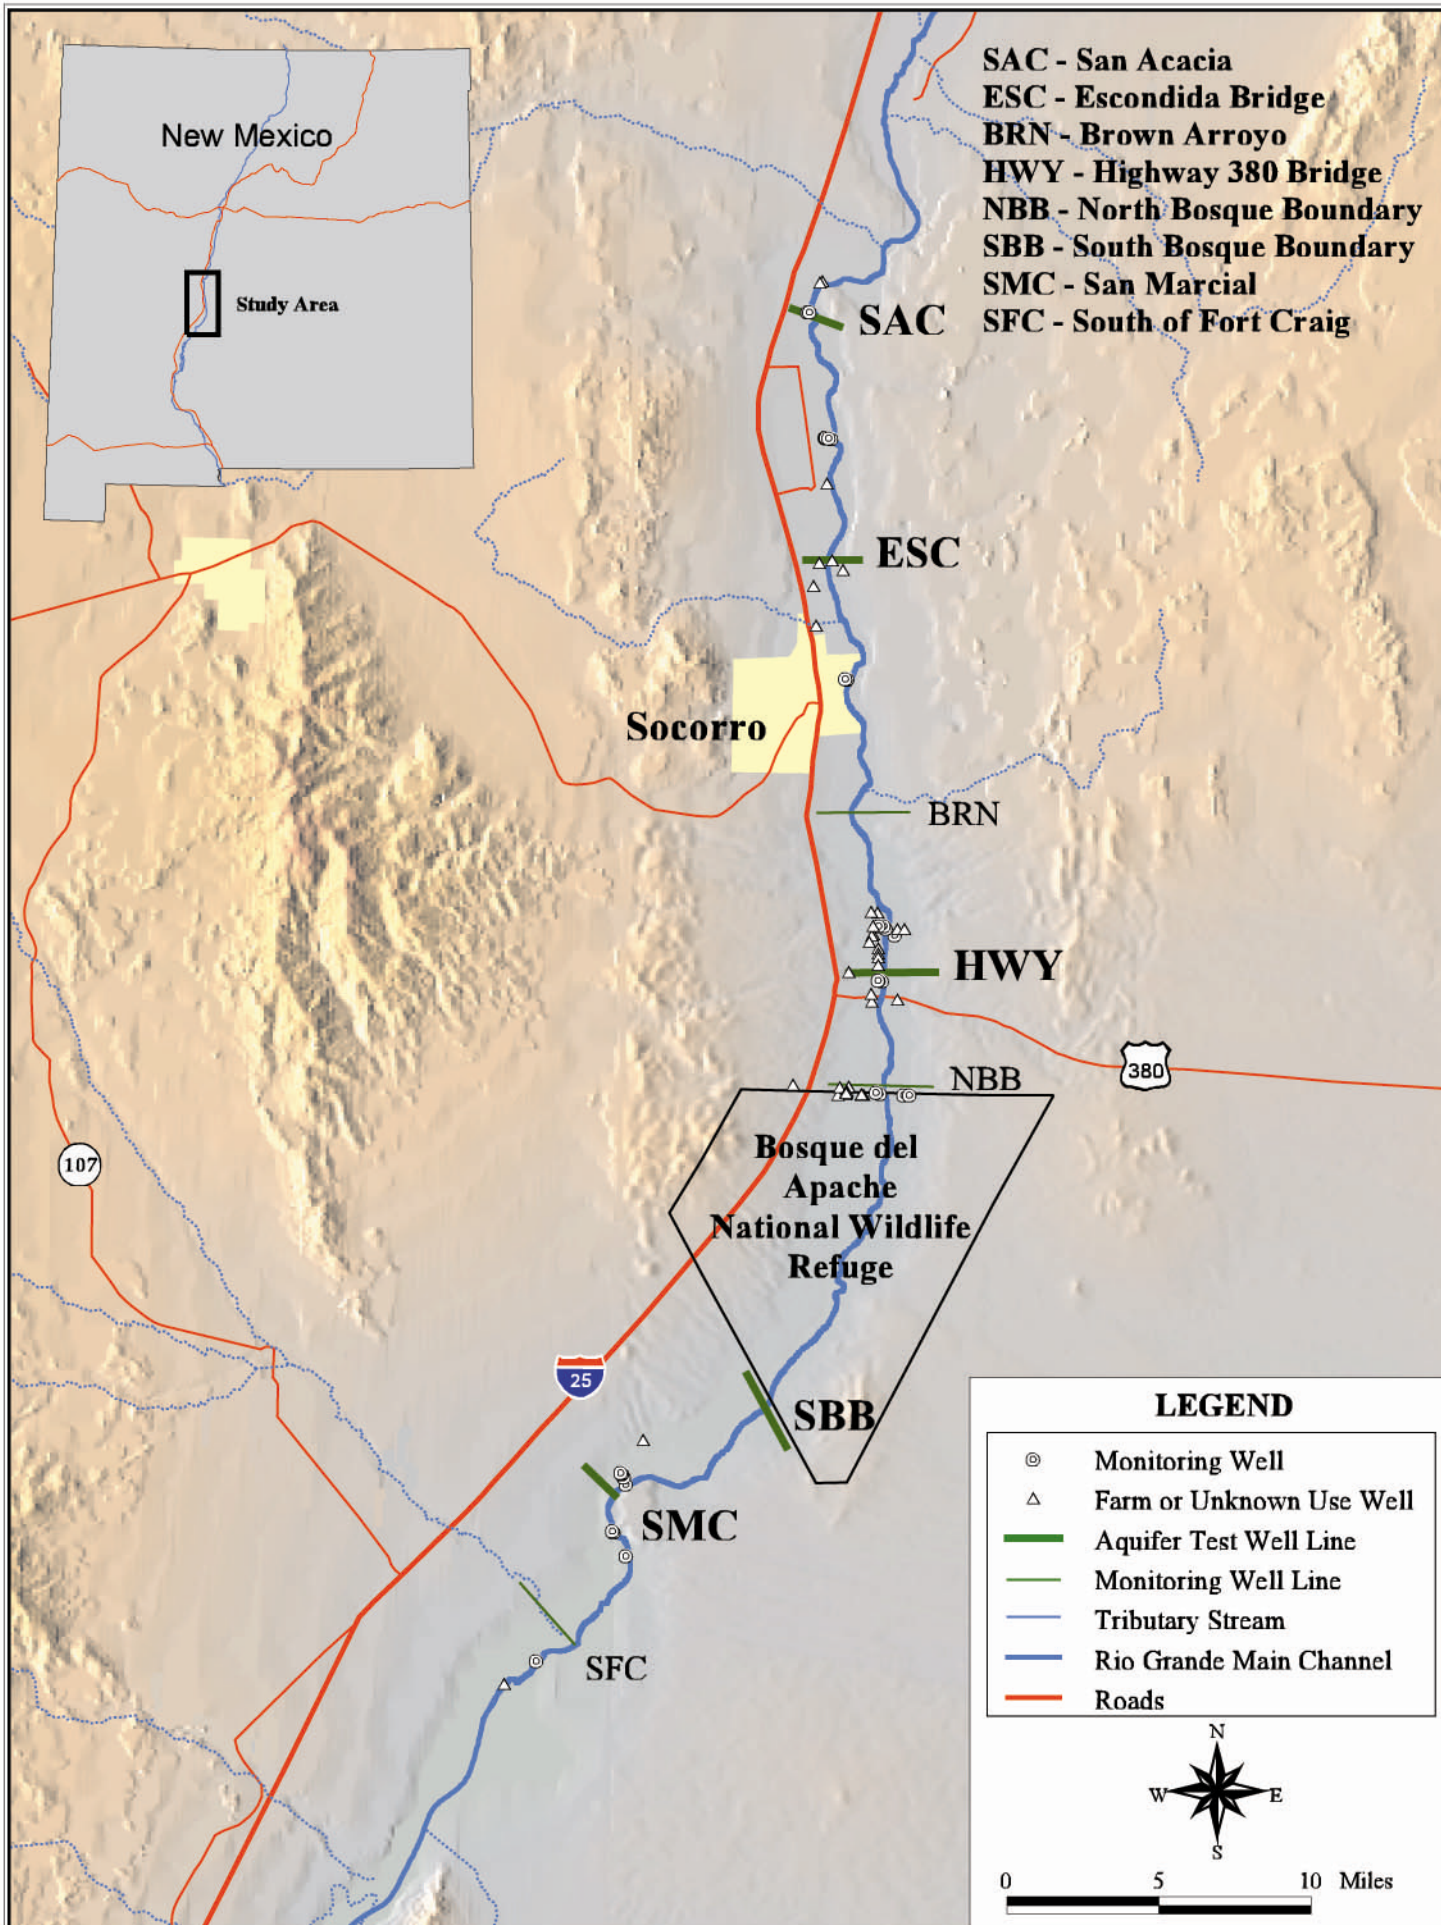

Figure 1. Well transects, Rio Grande Watershed Study, Phase 1
- Drilling program base map and individual transect plan view maps (Figures 1 through 9)